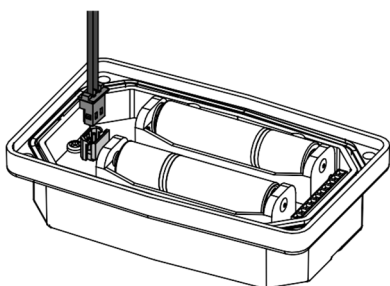

Figure 5
6. Place the battery pad into the computer mount cavity, connect the spliced end of coil wire to the computer (see Figure 5), and mount the computer. Attach the computer to the turbine using the four corner holes in the faceplate and the screws provided (4-40 x 3/8"). Make sure the seal is fully seated in the computer housing groove before tightening the screws.